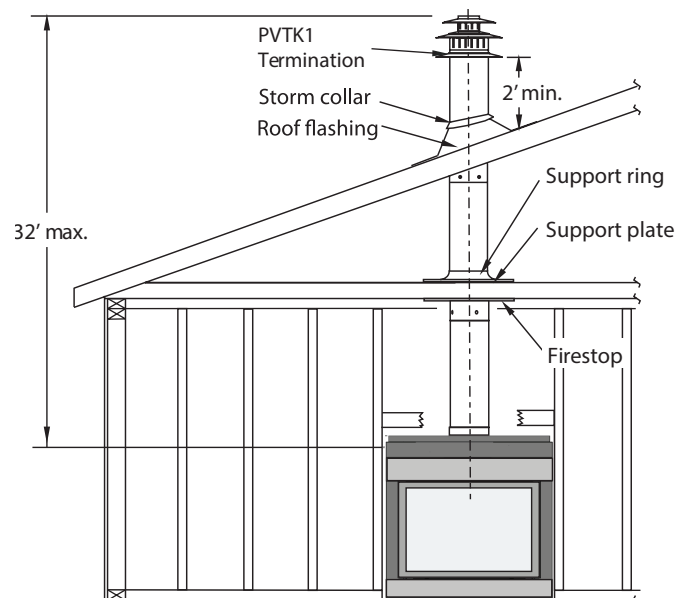

Figure 9. Top vent, Roof mounted termination with no offset in vent run.
- The Vertical termination must be a minimum 2' higher than where the termination exits the roofing materials, (asphalt shingles, cedar shakes, etc). This distance should be measured from the high side of the roof slope where the flue flashing intersects the roofing materials. (see *Figures 9 to 9c*).